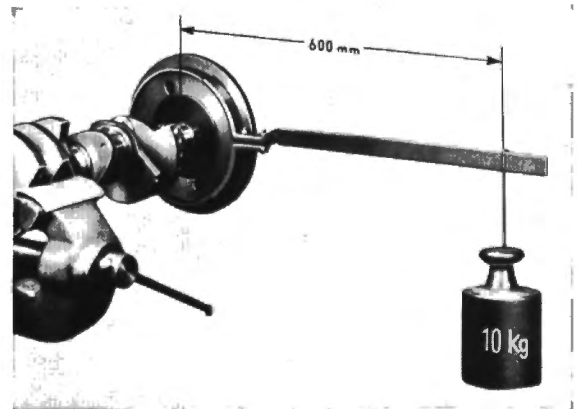

Fig. 03-10/6
12. Fit the pulley (4) to the flywheel (9). Install the locking plates (5) and attach the pulley to the hub by means of the four hexagon screws (8) with spring washers (Fig. 03-10/3). Tighten the four hexagon screws (8) with the prescribed torque (see Job No. 00-0).
13. After mounting the vibration damper check the friction torque which should be between 4.5 and 7 mkg. To do this attach a weight of 10 kg to a lever arm 600 mm long (Fig. 03-10/6).